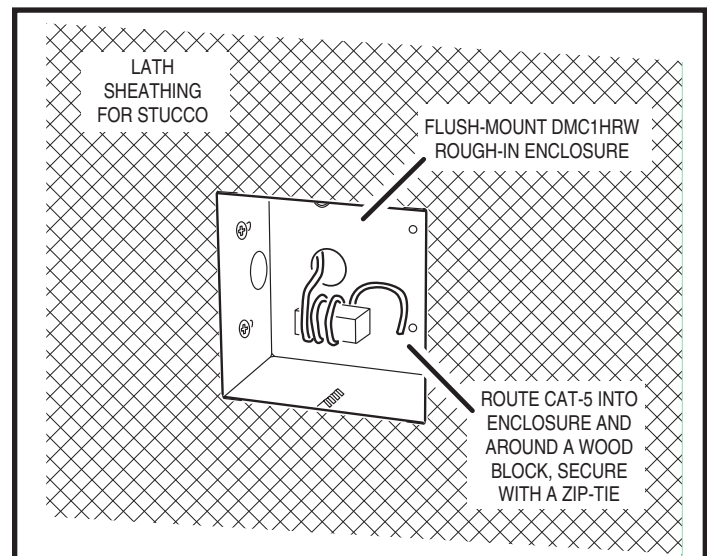

Figure 9. Patio Station Rough-in
3. Depending on the type of construction, the enclosure can be screwed or nailed to a stud, or in masonry applications just let the enclosure hang on the cable so the brick mason can flush and level it (see Figure 9).